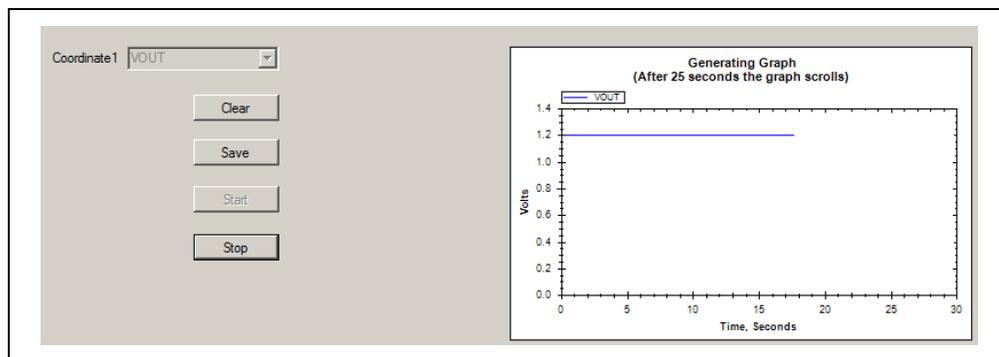

FIGURE 4-6: Statistics Menu.
- In the Statistics menu (Figure 4-6), select one of the options in the “Coordinate1” selection box to display the corresponding graph. The following options are available: